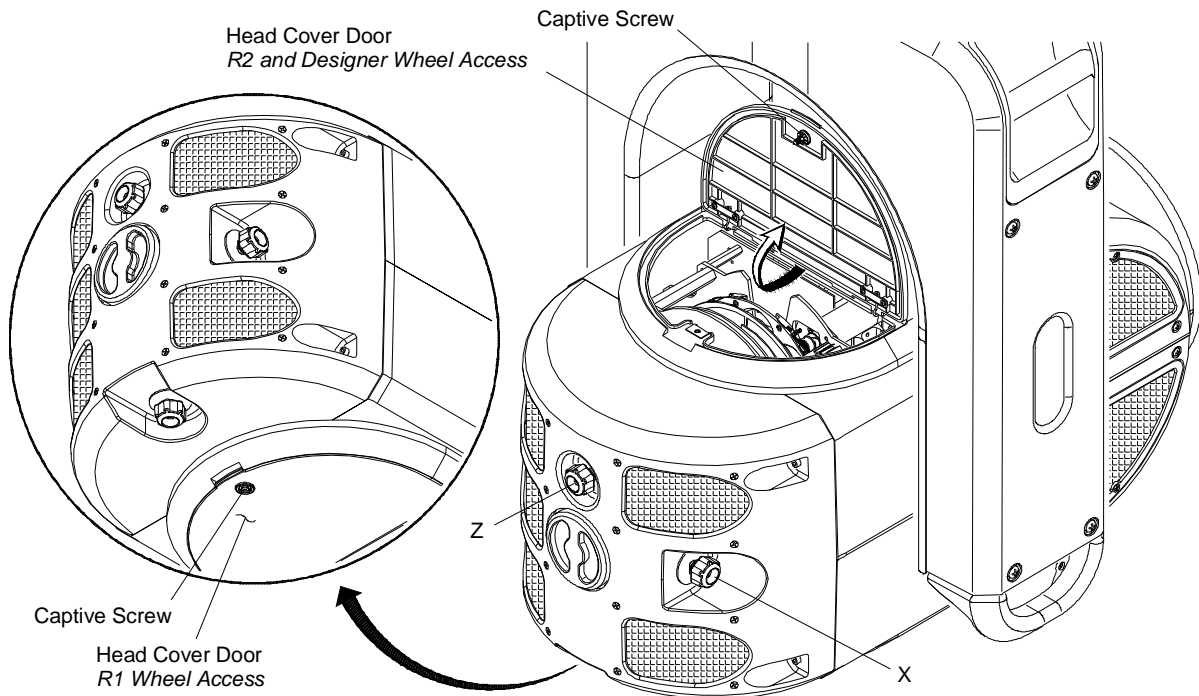

Figure 4-10: Accessing Gobo and Designer Color Wheels
- Step 2. Locate appropriate head cover door for access to Rotating Gobo Wheel 1 (R1) or Rotating Gobo Wheel 2 (R2) as shown in **Figure 4-10**. (Doors are identified by a label.) Turn captive screw to open door.
- Step 2. Locate appropriate head cover door for access to Designer Color Wheel as shown in Figure 4-10 on page 73. (Doors are identified by a label.) Turn captive screw to open door.